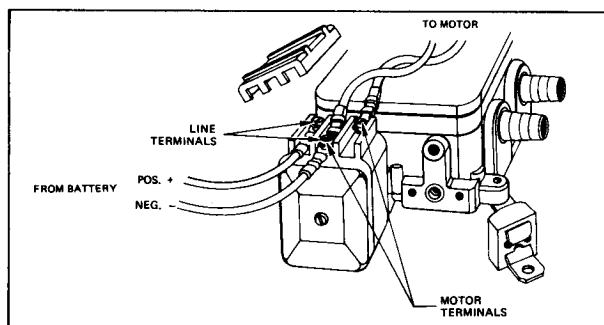

Figure 2
- Using a DC voltmeter, read the minimum voltage across the line terminals on the pressure switch. (Figure 2)